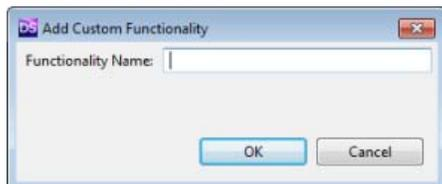

FIG. 72 Add Custom Functionality dialog
1. In the Control tab toolbar, click **Add Custom Functionality** to open the *Add Custom Functionality* dialog (FIG. 72):